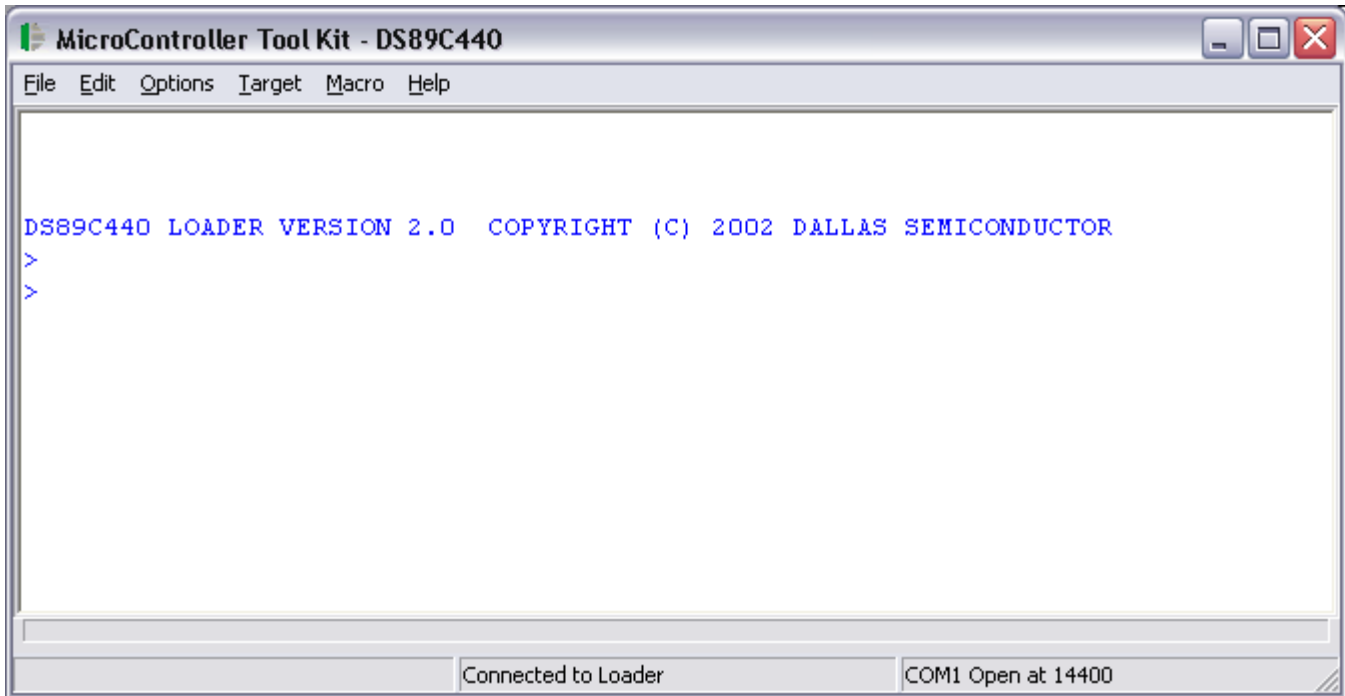

Figure 3. Microcontroller Tool Kit Output
- 9) A loader banner should appear, as shown in Figure 3.